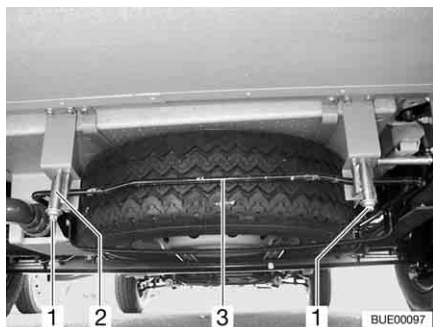

Fig. 199 Spare wheel support (basket)
- Loosen the nuts (Fig. 199,1) on the right and left rear hooks (Fig. 199,2) of the spare wheel support.
- Pull the bar (Fig. 199,3) slightly upwards. At the same time, pull down the hooks and unhook the bar.